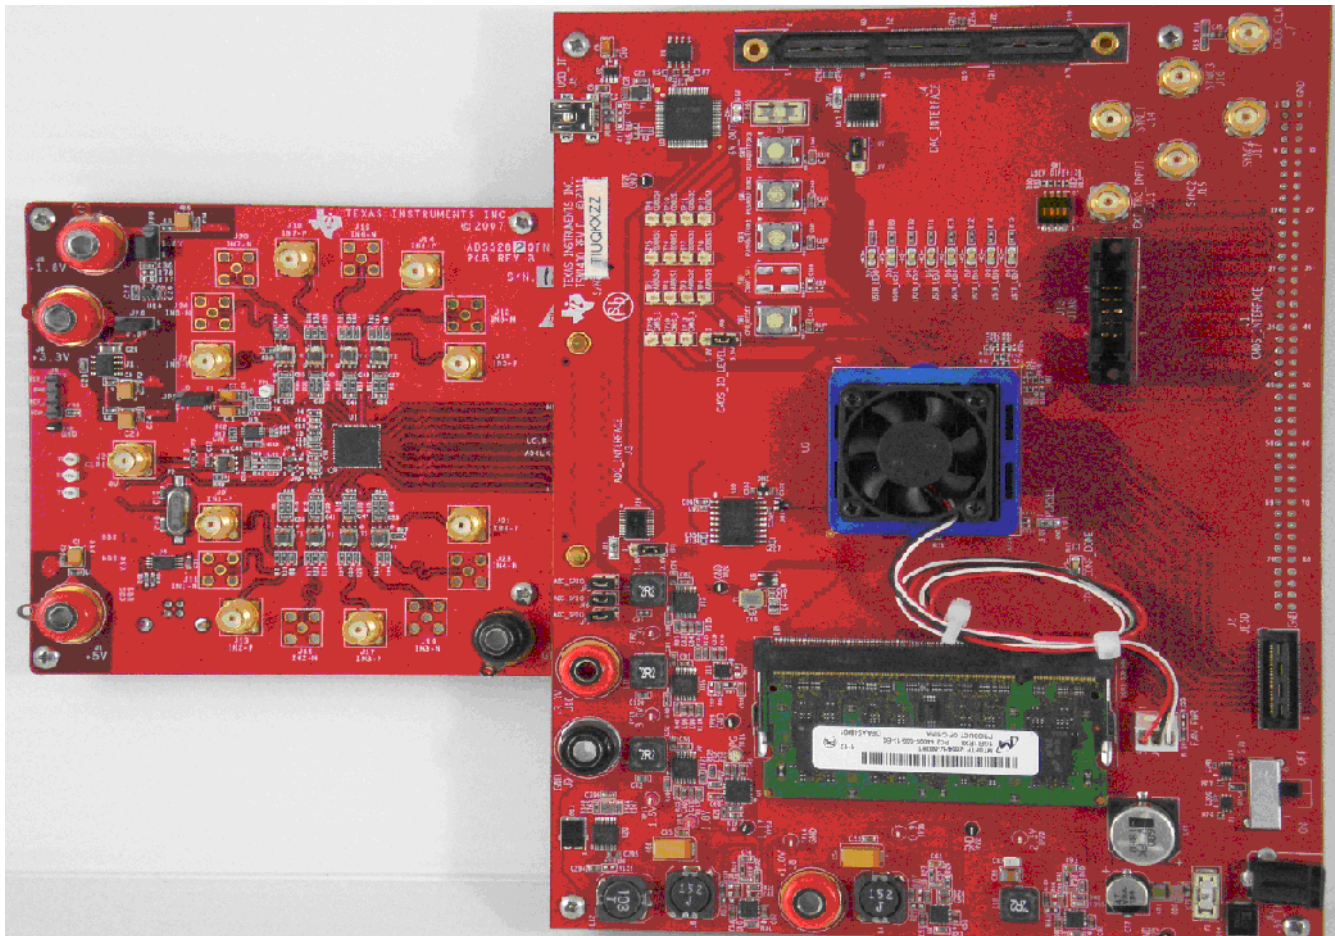

Figure 32. TSW1400EVM interfacing to an ADS5281 EVM
- The TSW1400 EVM connected to an ADS5281 EVM is shown in Figure 32